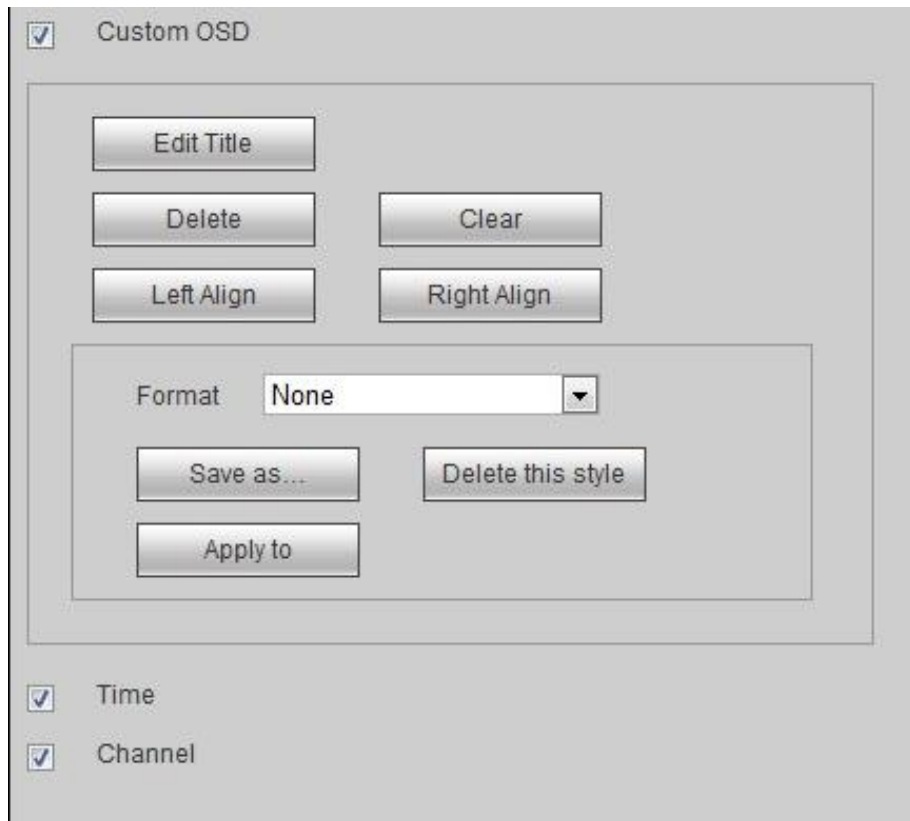

Figure 4-83
Step 1 Select "Custom OSD". The system displays Figure 4-83.